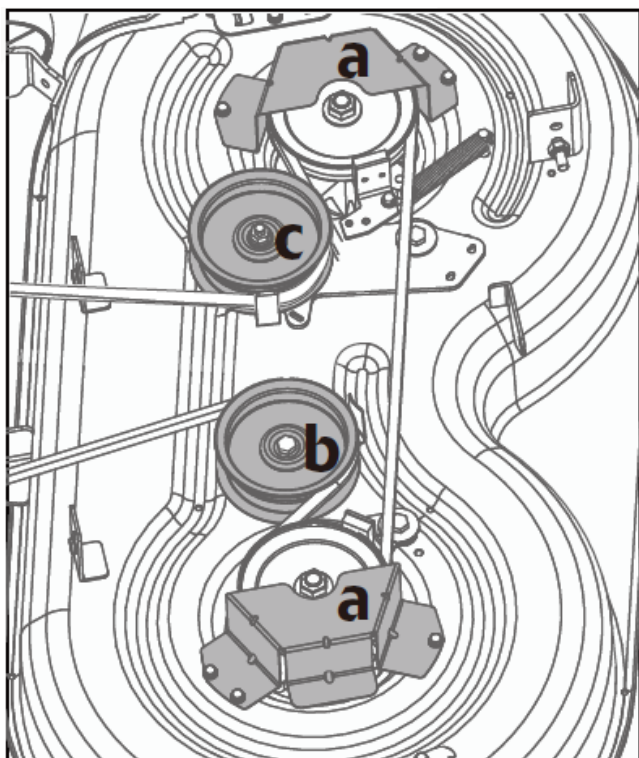

Fig.27
2. Remove the two belt protective covers (a, Fig. 27) by removing the six screws that fasten them to the deck.
3. Remove the fixed pulley (b, Fig. 27) and tension pulley (c, Fig. 27).